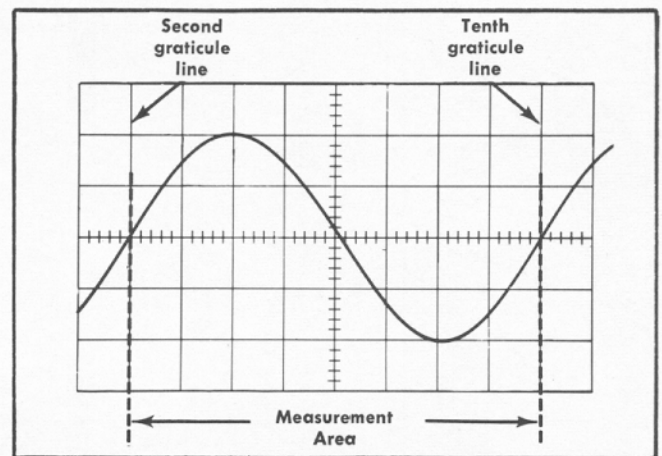

Fig. 2-5. Measuring the time duration of a waveform.
When making time measurements from the graticule, the area between the second and tenth graticule lines provide the most linear display. Set the TIME/CM switch so that the timing area falls between the second and tenth graticule lines as illustrated in Figure 2-5. When measuring displays of less time duration than eight centimeters, position the display near the center of the CRT.
4. Set the TIME/CM switch to the fastest sweep rate that displays eight centimeters or less between the time measurement points (see Fig. 2-5). See the topic entitled "Selecting Sweep Rate" in this section concerning nonlinearity of the first and last centimeter of the display.
Example. Assume that the distance between the time measurement points is eight centimeters (see Fig. 2-5) and the TIME/CM switch is set to 5 μSEC. Using the formula:
Example. The frequency of the signal shown in Figure 2-5 which has a time duration of 40 microseconds is: